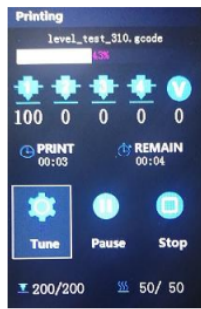

Fig 1
1. Copy level_test_310.gcode to SD card and print it from SD card (Fig 1).